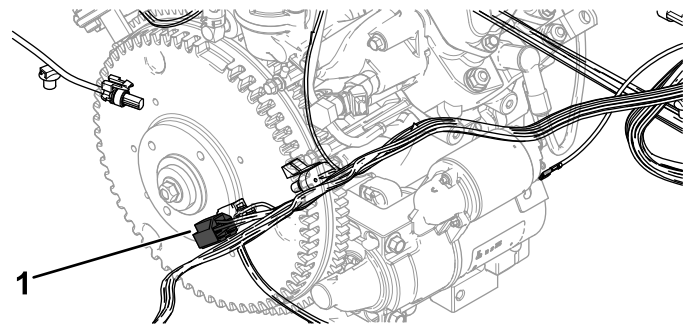

Figure 16
2. Connect the alternator wire harness to the engine wire harness (Figure 16).